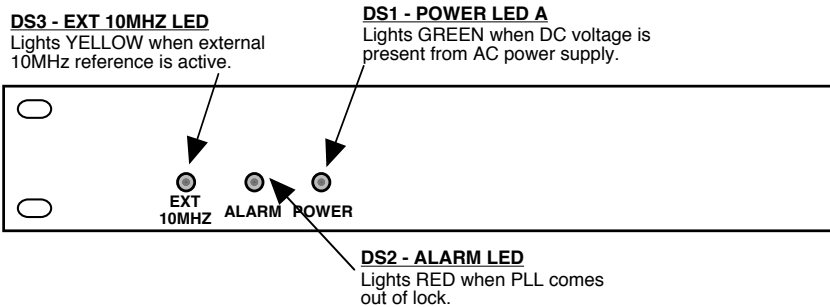

FIGURE 2.2 2116-31T21-15 Front Panel Controls and Indicators
Figure 2.2 shows the front panel indicators.
4. Be sure DS1 (green, DC Power) is on and DS2 (red, Alarm) is off (Figure 2.2).
6. If EXT is selected or AUTO is selected and there is a 10MHz, 3 dBm signal at J2, check that DS3 (yellow, Ext 10MHZ) is on (Figure 2.2).